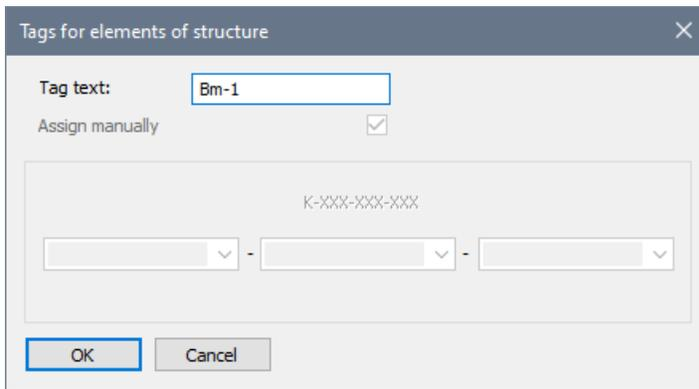

Figure 27.27. **Tags for elements of structure** dialog box
- ⇒ In the **Tags for elements of structure** dialog box (see Fig. 27.27), input the tag **Bm-1**.